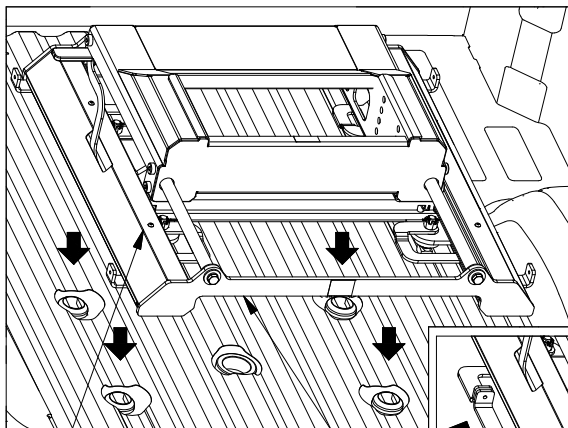

Figure B1:
CAUTION: Lifting the slider base under the sheet metal covers may cause damage to the base, grip base by end rail supports to lift, see Figure B1.
- Place Base.** Remove the latch pins from each side of the base and rotate the handles out, see Figure B1. Place the base over the attachment points and carefully lower it until the latch cams pass through the floor and the base rests flat against the top of the attachment points.